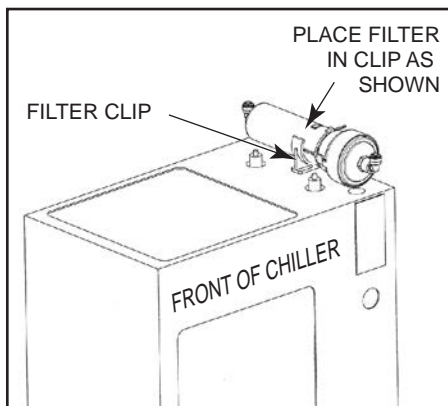

FIG 5
- (A) MOUNT FILTER TO CHILLER CASING (SEE FIG. 5)